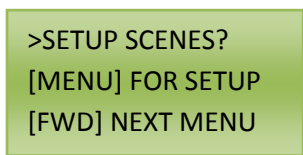

Figure 7.1
1. Press the MENU on the keypad and the screen will say >SETUP SCENES? See figure 7.1 for visual description.